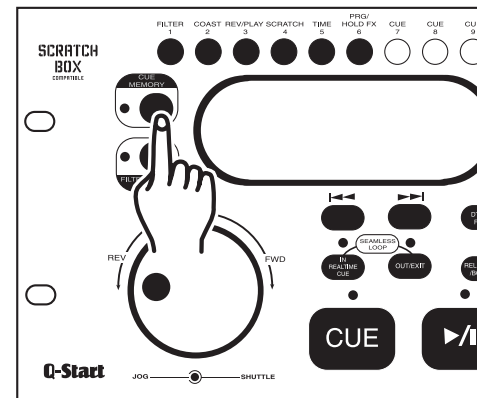

Figure 20
- 1) Create a cue point, press the *CUE MEMORY BUTTON* (6), as in Figure 20. The yellow Cue Memory LED will glow. This indicates a cue point is ready to be stored in to memory.